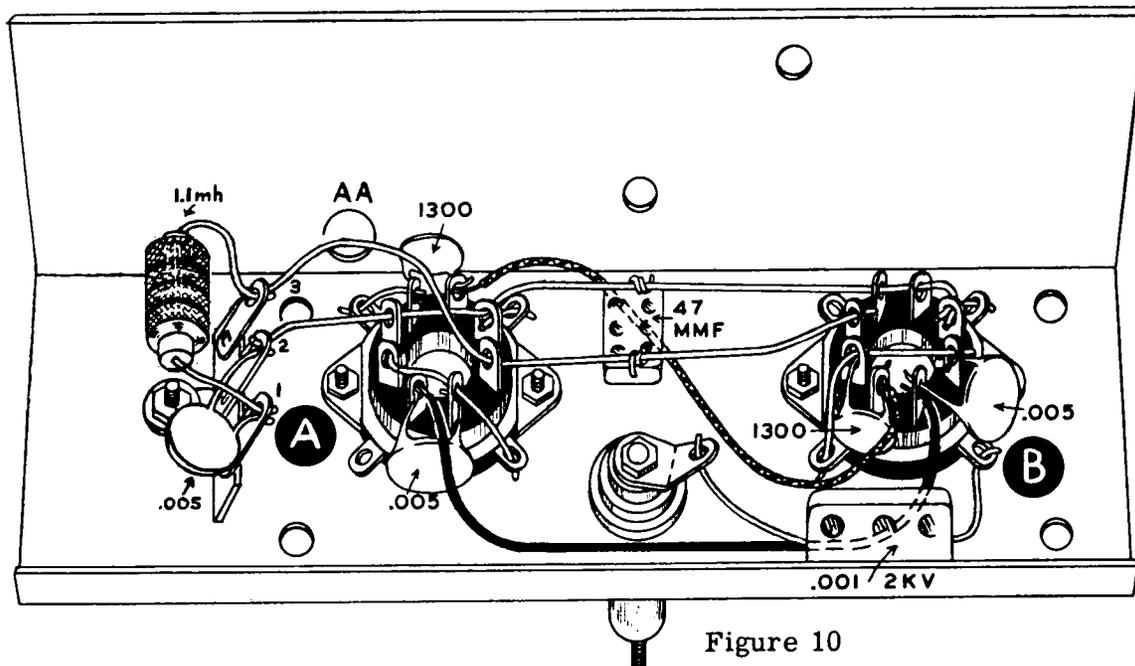

Figure 10
- ( ) Identify the 6146 sub-chassis from Figure 10.
- ( ) Mount two ceramic octal saddle-type sockets on the sub-chassis with the keyways facing away from each other. Use 1/4" 6-32 screws, lockwashers and nuts. See Figure 10.
- ( ) Mount a feed-through insulator in the 5/16" hole. Arrange the stud in the insulator so most of it projects through the top. Leave only enough of the stud at the bottom of the insulator to hold a solder lug and two nuts. See Figure 10 and position the insulator body and solder lug as shown.
- ( ) Connect a .005  $\mu\text{fd}$  disc ceramic capacitor from pin 6 (NS) to pin 7 (NS) of socket A.
- ( ) Connect a .005  $\mu\text{fd}$  disc ceramic capacitor from pin 1 (NS) to pin 2 (NS) of socket B. Position the capacitor to clear the adjacent ground lug.
- ( ) Connect a 1300  $\mu\mu\text{f}$  disc ceramic capacitor from pin 2 (NS) to pin 3 (NS) of socket A.
- ( ) Connect a 1300  $\mu\mu\text{f}$  disc ceramic capacitor from pin 3 (NS) to pin 4 (NS) of socket B.
- ( ) Connect a .005  $\mu\text{fd}$  disc ceramic capacitor from lug 1 (NS) to lug 2 (NS) of the terminal strip.
- ( ) Connect an orange lead from pin 3 of socket A (NS) to pin 3 of socket B (NS). Run the lead close to the chassis.
- ( ) Connect a black lead from pin 7 of socket A (NS) to pin 2 of socket B (S). Run this lead close to the chassis also.
- ( ) Run a heavy bare wire through the following terminals in order (see Figure 10): lug 2 of the strip, pins 1 and 4 of socket A and pins 6, 7 and 8 of socket B. Solder lug 2 of the terminal strip and pins 6 and 7 of socket B.
- ( ) Connect a heavy bare wire from pin 8 of socket B (S) to the adjacent ground lug (S).
- ( ) Connect a heavy bare wire from pin 4 (S) to the adjacent ground lug (S) on socket A.
- ( ) Connect a heavy bare wire from pin 2 (S) to the adjacent ground lug (S) on socket A.
- ( ) Refer to Figure 10 and connect a  $47 \mu\mu\text{f}$  mica capacitor (yellow-violet-black) between the two heavy wires as shown. Keep the leads short and solder both connections.
- ( ) Connect a  $.001 \mu\text{fd}$  2000 volt mica capacitor (brown-black-red) from the #1 ground lug on socket B (S) to the feedthrough insulator solder lug (NS).
- ( ) On the terminal strip, connect a 1.1 mh RF choke from lug 1 (NS) to lug 3 (NS).
- ( ) At point 9 of the cable (within the 6146 compartment) connect the red lead to the solder lug on the feed-through insulator (NS).
- ( ) Connect the orange lead at this point to pin 3 of socket B (S). Refer to Figure 10 for socket identification.
- ( ) Connect the twisted pair of black wires coming through 3/4" grommet D to pin 7 of socket A (S).
- ( ) Connect the violet lead coming through grommet D to lug 1 of the terminal strip (S).
- ( ) Connect a short bare wire from lug 3 of the terminal strip (S) to the adjacent solder lug on the feed-through insulator (S).
- ( ) Using a 5 1/4" length of #14 bare wire, slip a 4" length of sleeving over the wire and pass it through hole AA in the side of the 6146 sub-chassis (see Figure 10). Connect the end of the wire to pin 1 of socket A (S) and connect the other end to the ground lug on the silver strap at the tuning capacitor mounting screw (NS). Run the wire down close against the chassis by bending it at right angles where it comes through hole AA.